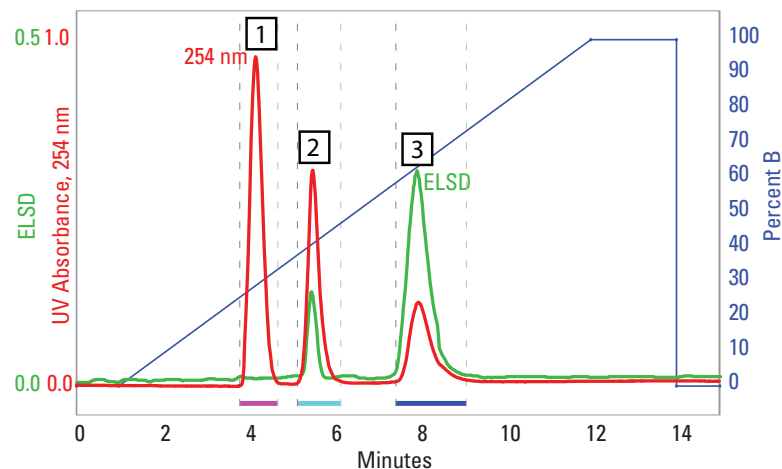

Figure 1: UV and ELSD Reference Chromatogram
7. Compare the chromatogram with Figure 1. Table 2 includes verification criteria for peak elution times.